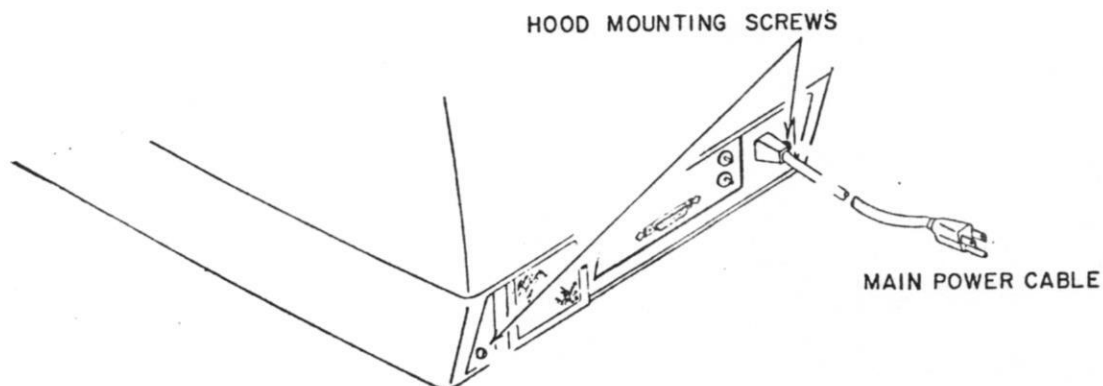

Figure 6-16. Cabinet Hood Mounting
- Loosen two mounting screws located at lower back corners of cabinet hood (see Figure 6-16).